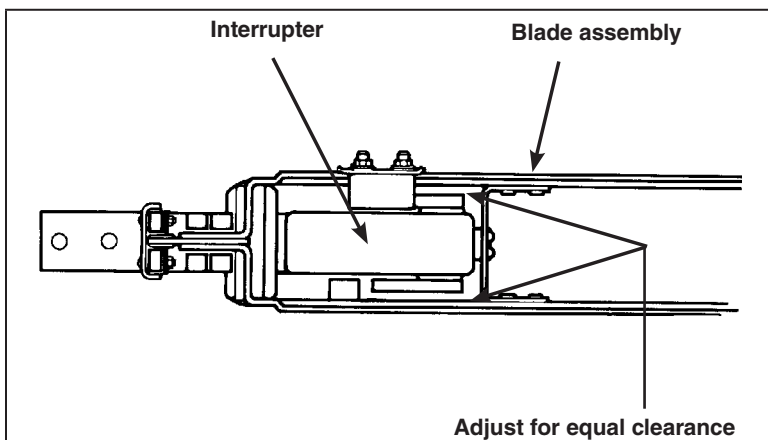

Figure 41. Blade assembly in the fully closed position.
- (d) The interrupter must lie in a plane parallel to the sweep of the blades, and the blades must pass over the interrupter with approximately equal clearance on both sides. See Figure 41.